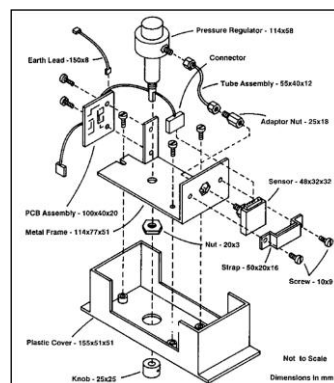

Figure 6
1. The controller assembly as in figure 6 has been assembled manually. If the company is interested to assemble this equipment through an automated assembly system in order to avoid errors in manual assembly and availability of skilled labours, suggest suitable modification in design of this assembly for the improvement of its assembly efficiency.